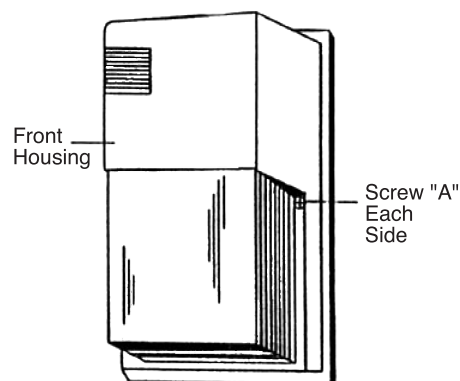

Figure 1
2. Remove fixture lens cover housing by loosening screws (A Figure 1).
7. Replace fixture lens cover, secure it with screws. Make sure that gasket is properly seated, free of debris, and compressed to seal out moisture. (A Figure 1).
2. Loosen screws (A Figure 1) and remove fixture lens cover. Wear gloves and safety glasses. Remove old lamp and replace with new lamp of correct type and wattage. Screw lamp into socket in lampholder until finger tight.
3. Replace fixture lens cover with screws (A Figure 1), making sure that gasket is properly seated, free of debris, and compressed to seal out moisture.